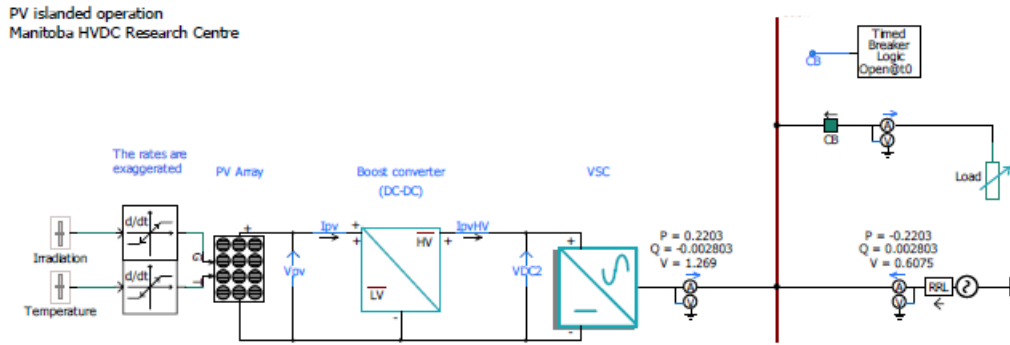

Figure 1: Overall PV system connected to a simple grid
This document outlines the implementation of a PV system in PSCAD. Figure 1 shows the PSCAD main page of the photovoltaic (PV) system PV\_generic\_example.pscx. A general description of the entire system and the functionality of each module are given to explain how the system works and what parameters can be controlled by the system.
Based on the reference power generated by the maximum power point tracker (MPPT) the boost converter adjusts the dc link current  $I_{pvHV}$  (see Figure 1). The voltage source converter (VSC) controls the dc voltage  $V_{DC2}$  and tries to maintain it its reference value.